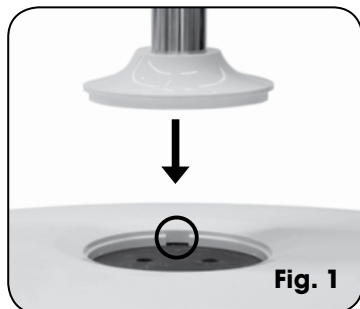

Fig. 1
1. To connect the extension tube to the anti-topple base, insert the flange located on the end of the extension tube into the ridge on the top of the base, ensuring that the tab on the flange aligns with the tab slot located on the anti-topple base (See Fig 1).